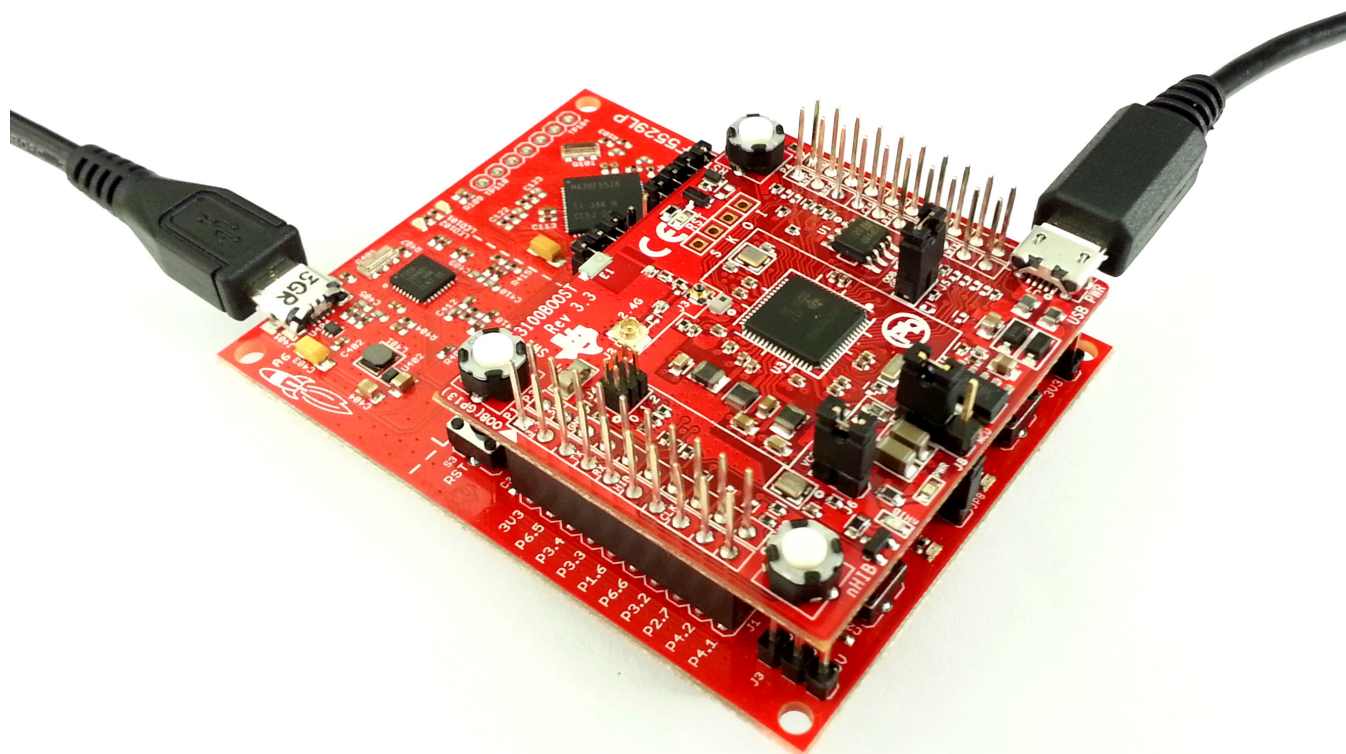

Figure 11. Connect the CC3100BOOST to the MSP430F5529 Launchpad
3. Connect the CC3100BOOST to the MSP430F5529 Launchpad as shown in Figure 11.